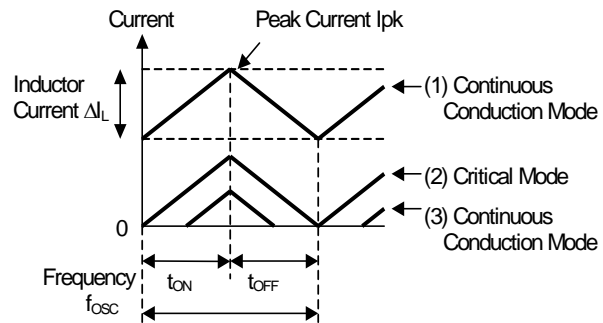

Fig.7. Inductor Current State Transition
Ideally, the value of L is set so that inductance current is in continuous conduction mode. However, as the load current decreases, the current waveform changes from (1) CCM: Continuous Conduction Mode → (2) Critical Mode → (3) DCM: Discontinuous Conduction Mode (Fig. 7.).